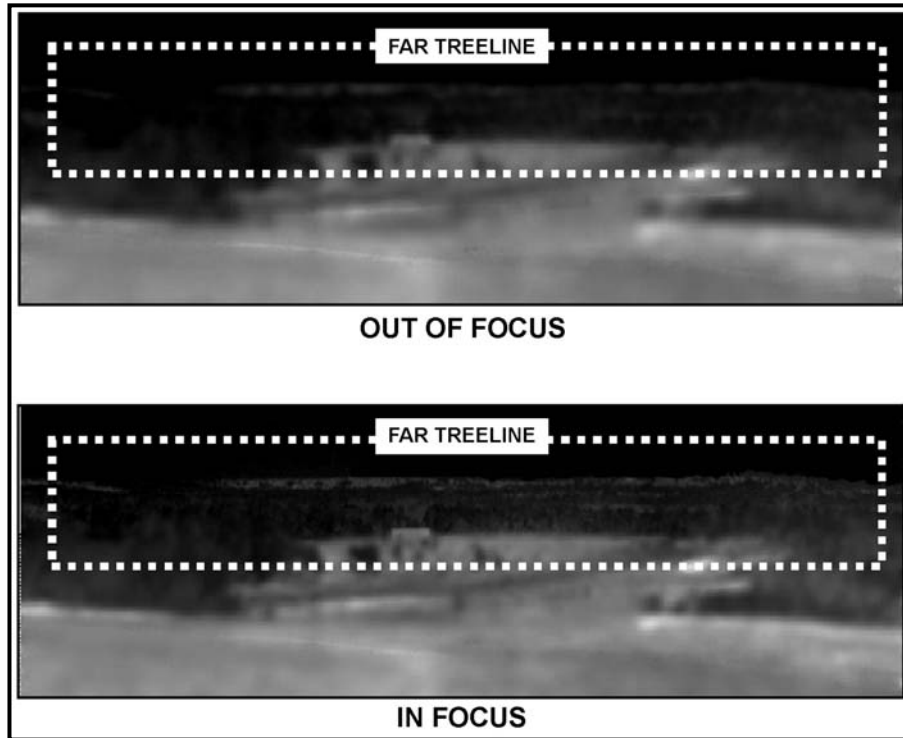

Figure C-14. Focus on far tree line.
- Press the BCF switch to activate the BCF menu (Figure C-14).